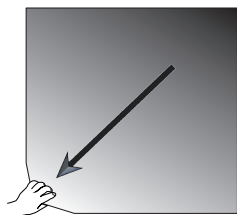

Figure 104: Adhesive Mat: Lift and Pull Mat Away to Remove
1. To release the adhesive mat, lift it on one side and pull it slowly away from the platform, as shown in Figure 104.